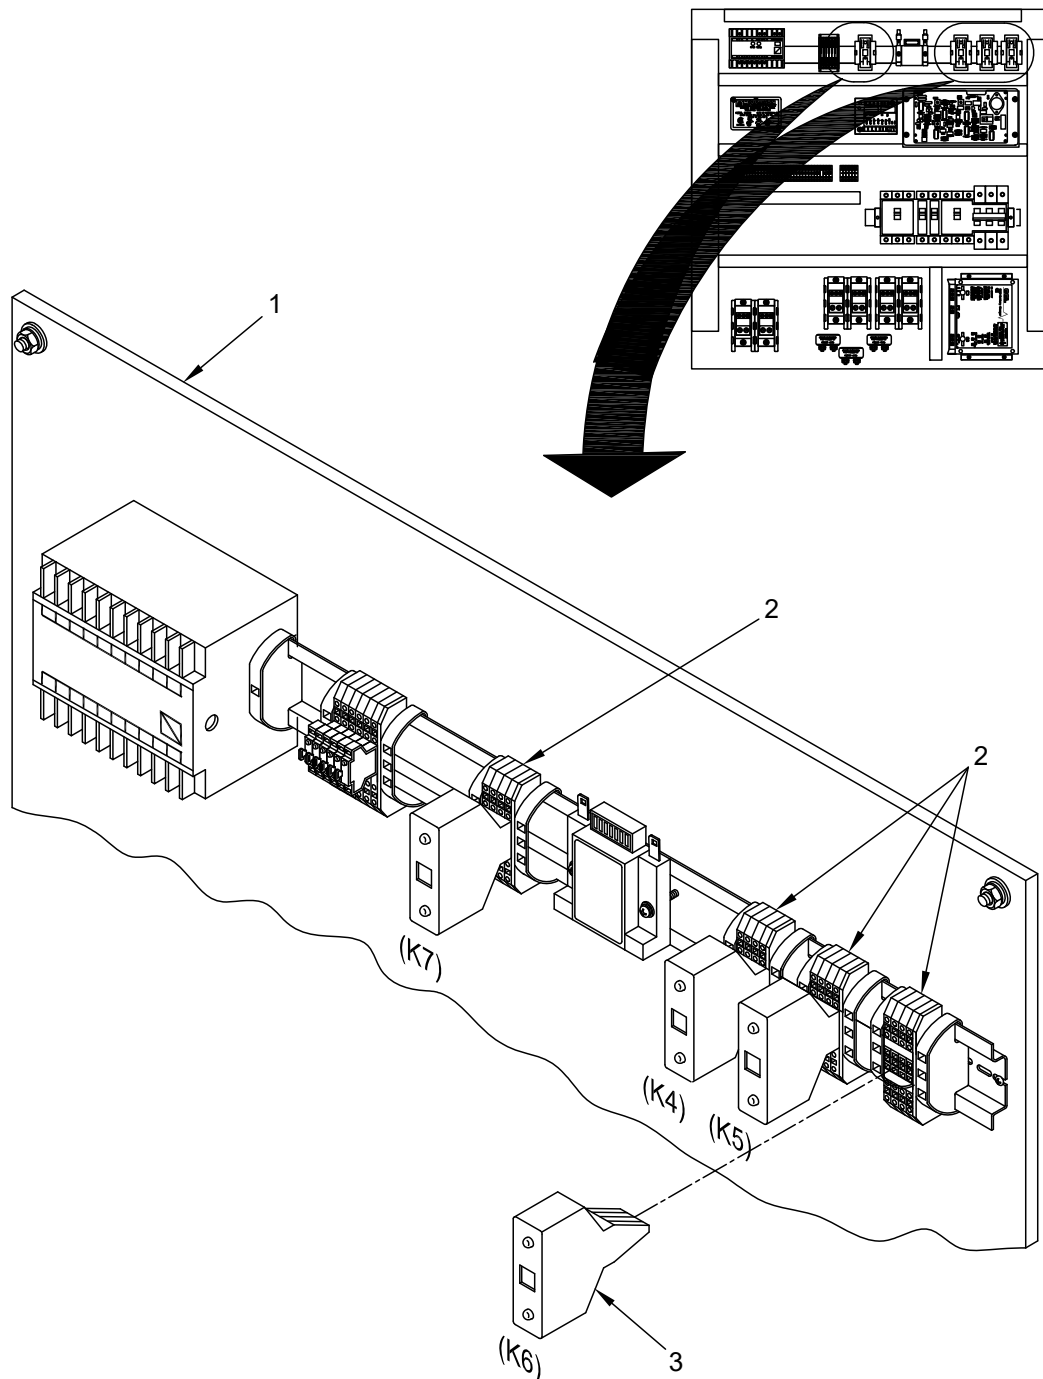

Figure 1. Relay Removal/Replacement.
4. Remove relay (Figure 1, Item 3) from socket (Figure 1, Item 2) on barrier panel (Figure 1, Item 1) and set aside.
1. Properly orientate relay (Figure 1, Item 3) (DC LED at bottom) and insert into socket (Figure 1, Item 2).
3. Connect all cables to power distribution panel (Figure 1, Item 1).